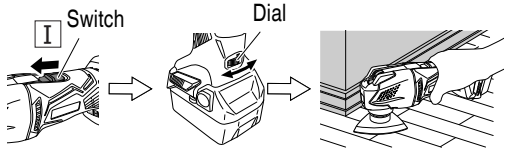

Fig. 11
1. Switch the unit on and use the dial to set the speed of the application tool. (Fig. 11)
2. Lightly place the application tool on the material and move the application tool back and forth at a pace where the movement isn't slowed. (Fig. 11)